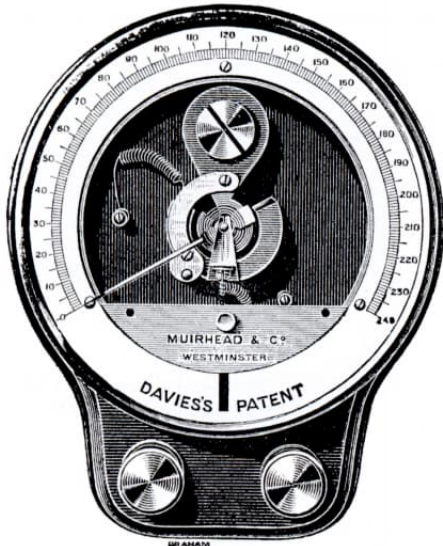

Figure 24. Benjamin Davis 240° moving coil
In 1895 Oliver Lodge's research assistant, Benjamin Davies, devised a long scale version of the moving coil in which the pointer covered up to 270°. Fig. 24 shows a 240° version by Muirhead. In these, the moving coil rotates on an axis along one side of the coil (Fig.24b) with the central core being a shell attached to the N pole of the vertical magnet (PM). The outer pole piece is attached to the S pole. The inner pole piece has to be slotted to allow assembly of the coil.